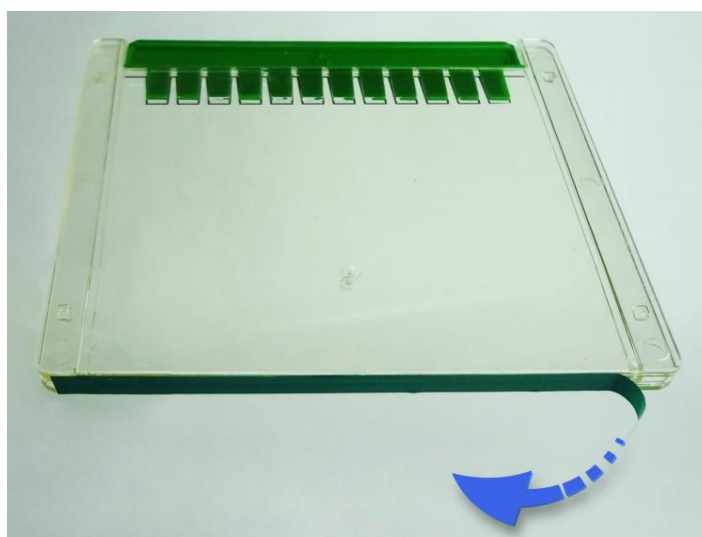

Figure 1. Peel the tape from the bottom of the cassette
2. Remove ExpressPlus™ PAGE Gel from the package, peel the sealing tape at the bottom of the gel cassette (see Figure 1).